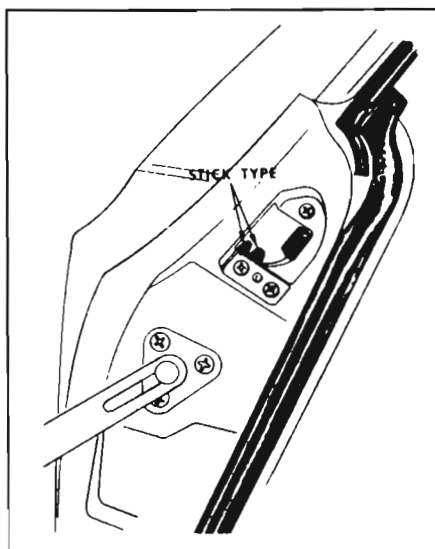

Figure 1-19—Tail Gate Lock Striker Lubrication
11. Tail Gate Lock Striker - Apply a thin coat of stick type lubricant to surface of lock bolt striker teeth. After lubrication, close door several times and remove excess lubricant. See Figure 1-19.